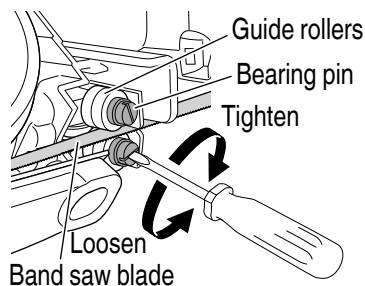

Fig. 27
4. Inspection of band saw blade guide rollers and adjustment of gaps (Fig. 27)